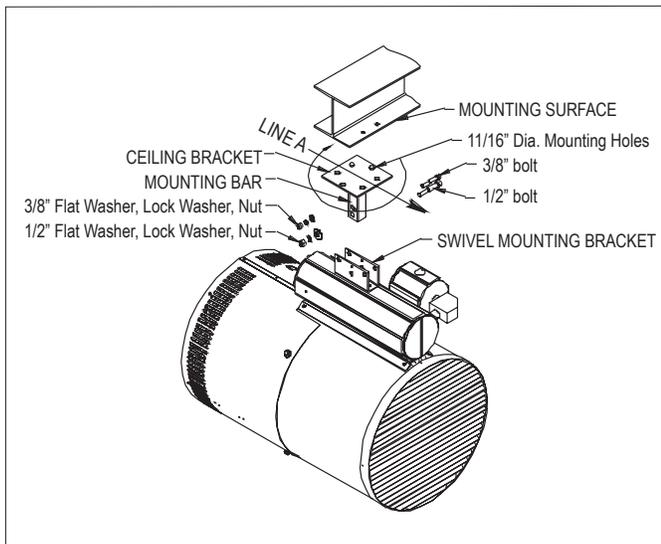

Figure 4 – Ceiling Mounting
- 1.1 Install the ceiling bracket to the mounting surface with the desired orientation. Ensure that "LINE A" (Figure 4, page 6), a line drawn perpendicular to the bolt holes in the mounting bar, is pointed in the desired direction of airflow. The ceiling bracket must be secured to the mounting surface using as many as six (but not less than two) 5/8" fasteners (not provided). Make certain that lockwashers are used under all nuts or lag bolts.